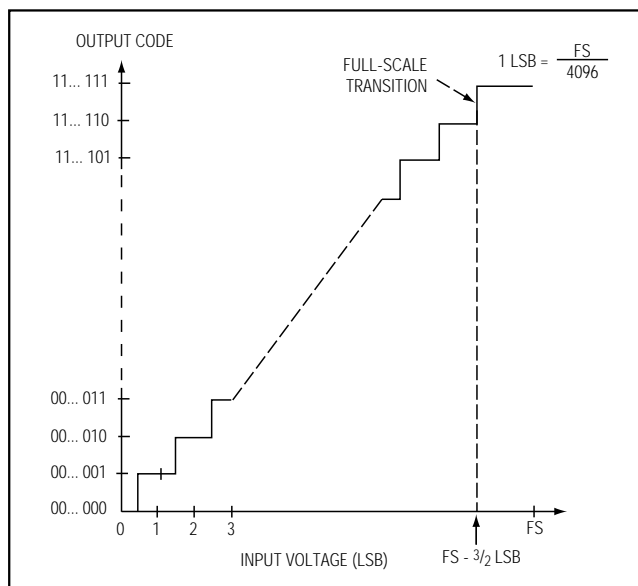

Figure 13a. Unipolar Transfer Function
Output data coding for the MAX127/MAX128 is binary in unipolar mode with $1\text{LSB} = (\text{FS}/4096)$ and two's complement binary in bipolar mode with $1\text{LSB} = [(2 \times |\text{FS}|)/4096]$. Code transitions occur halfway between successive integer LSB values. Figures 13a and 13b show the input/output (I/O) transfer functions for unipolar and bipolar operations, respectively. For full-scale (FS) values, refer to Table 3.